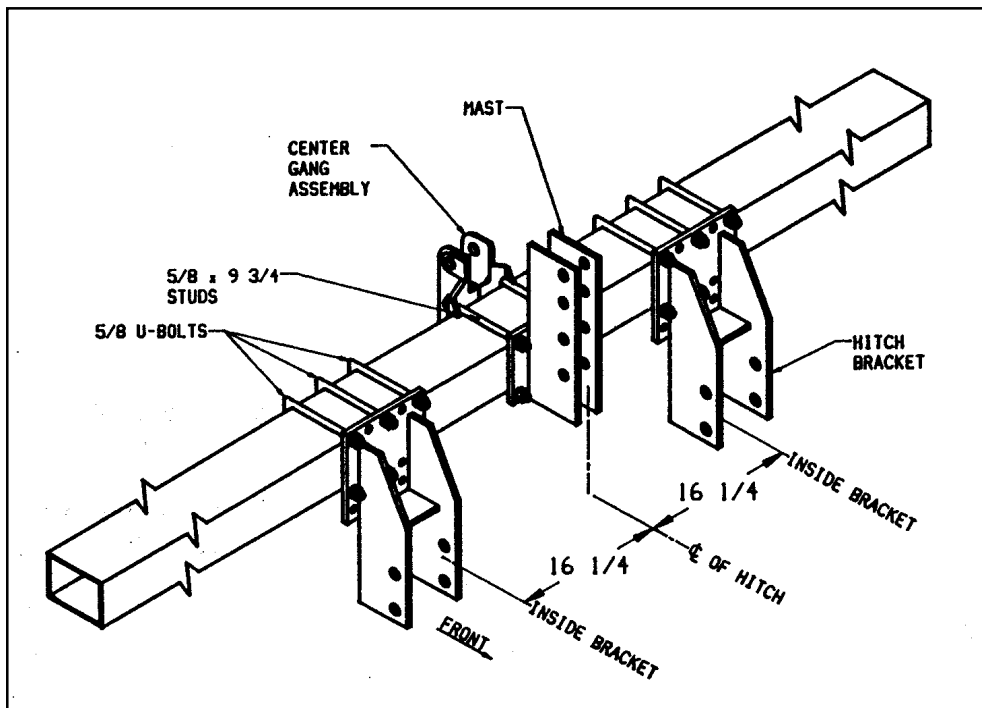

FIGURE 17
3. At the toolbar center, attach a gang assembly to the rear and mast to the front. (Either side of toolbar may be used as front). Clamp both assemblies in place using four 5/8" studs. Use 5/8" lock nut on one end of each stud with a minimum of one thread through the nut. Use a lock washer and standard nut on the other end. See Figure 17.
4. Attach hitch brackets to toolbar. Dimensions from center line to nearest inside edge of bracket should be 16-1/4". See Figure 17. For row spacings 28" and greater, fasten each hitch bracket with three 5/8" u-bolts, lock washers, and nuts. For narrower row spacings, some of the u-bolts will have to be replaced with studs which also fasten gang assemblies.